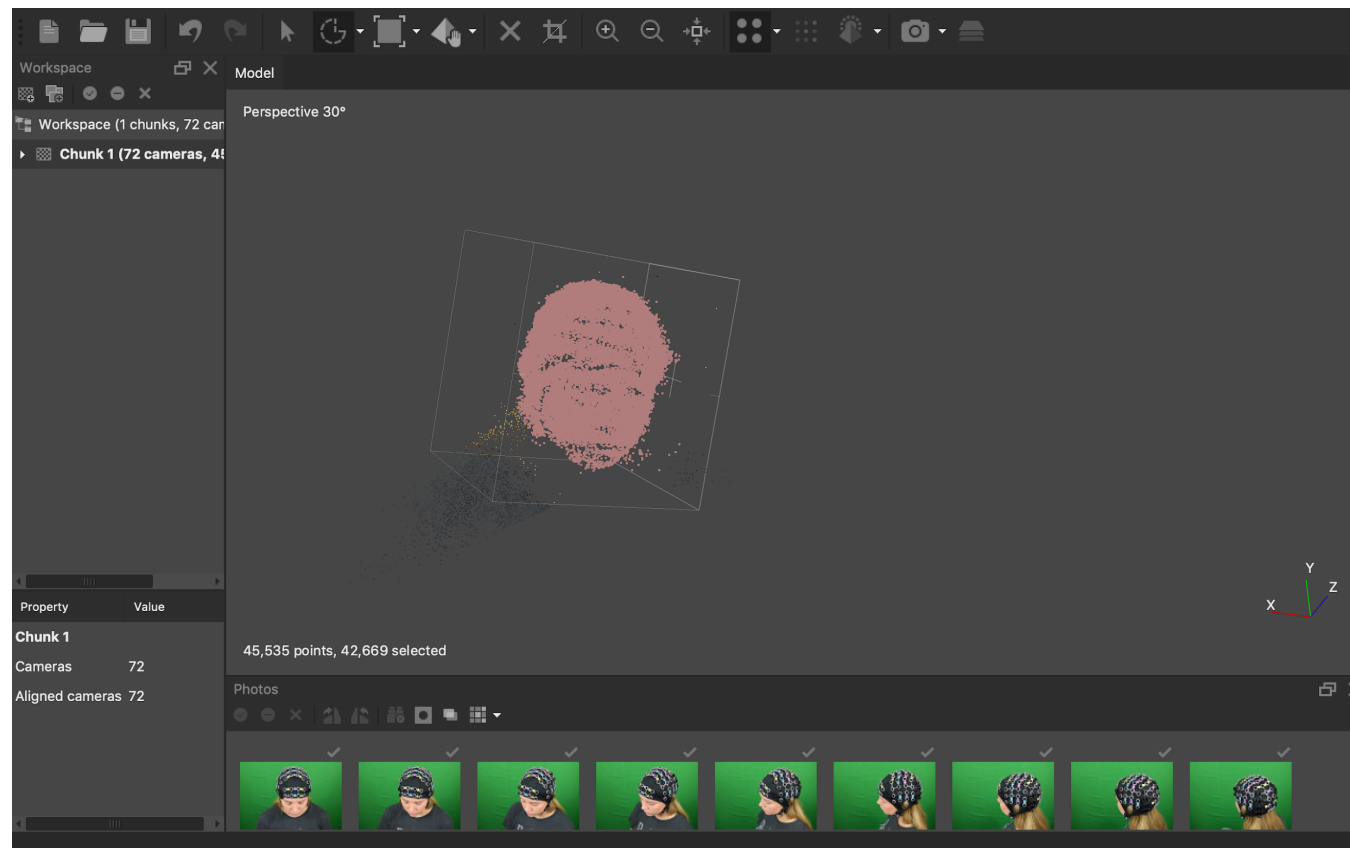

Figure 19. Removing unnecessary points in Metashape
- Remove all the unnecessary points. To do so choose “rectangle selection” and select “free form selection”. Now use the tool to draw around the area you’d like to keep (Figure 19) (e.g. draw around the head). The tool will select the area that has been drawn around and by using “crop section” all other points will be removed. Continue doing this from every angle of the object to make sure there are no unnecessary points left.